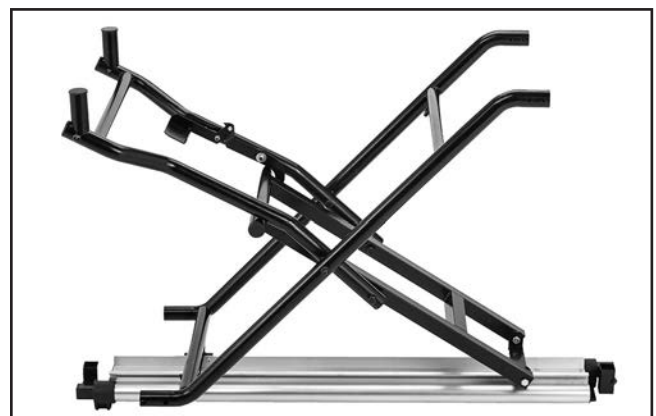

Figure 8. Miter stand locked upside down.
4. At this point miter stand will be locked in its fully unfolded position, as shown in **Figure 8**.